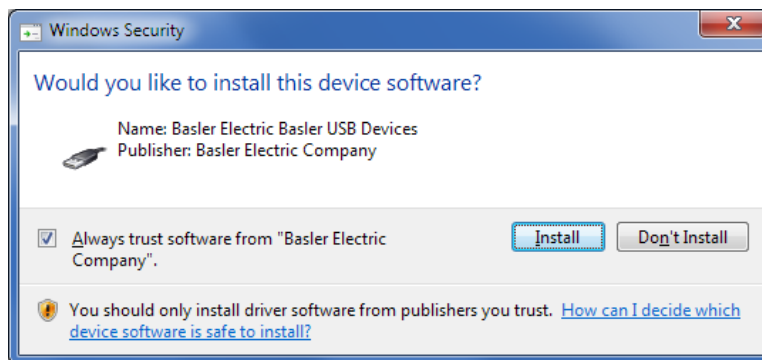

Figure 64-8. Windows Security
- Step 7. If a Windows Security window (Figure 64-8) appears, click Install.